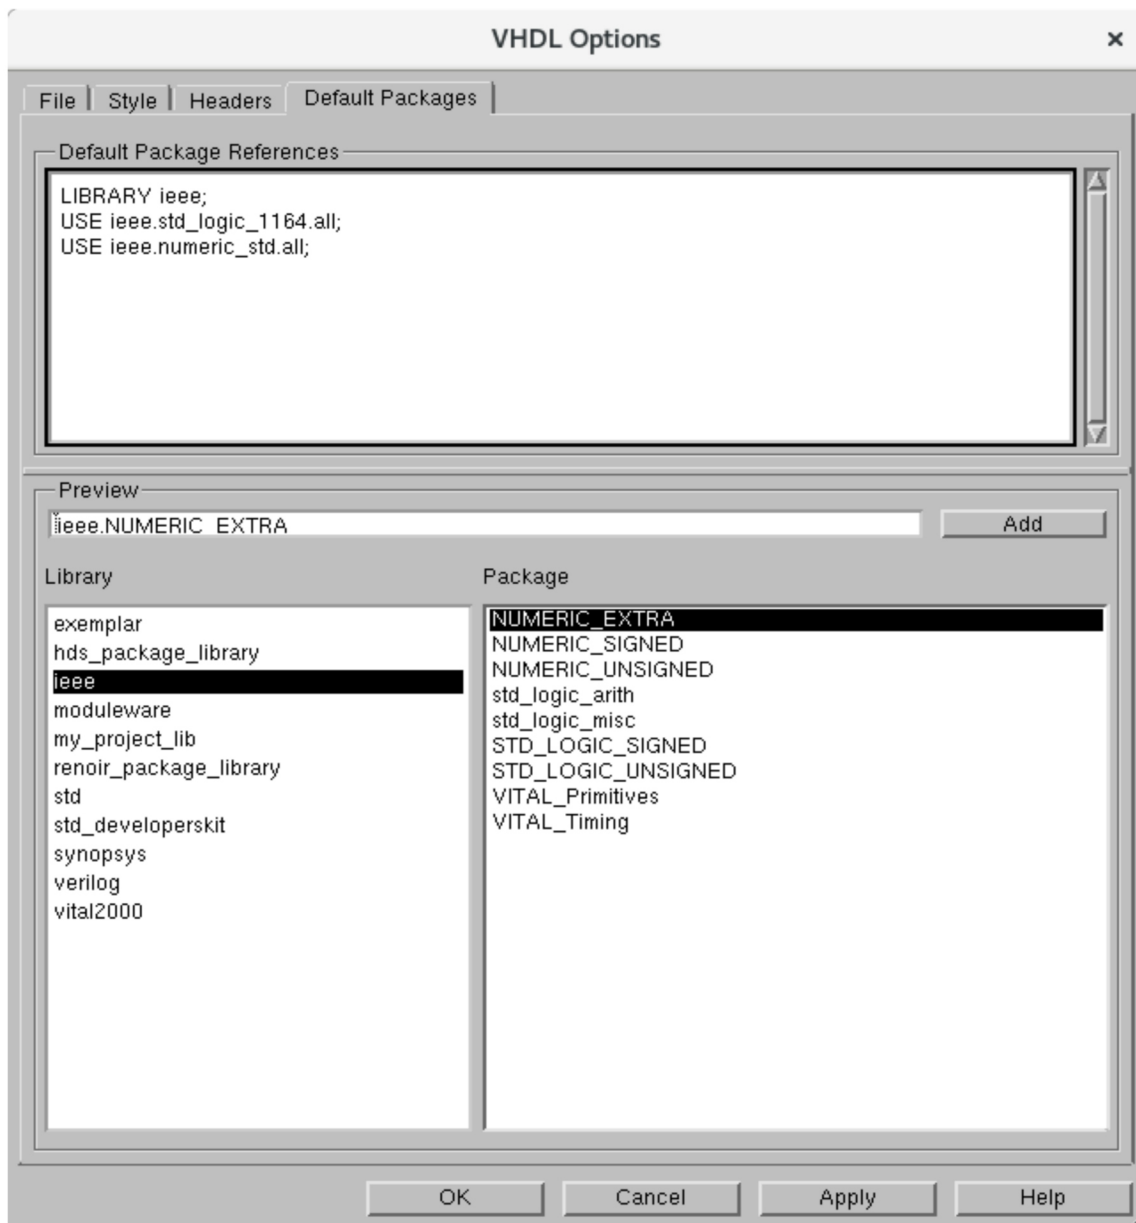

Figure 11: Modified default packages definitions
9. Select Options->VHDL in the main windows. Select the Default Packages subwindows. Change the text by replacing the reference to ieee.std_logic_arith with a reference to ieee.numeric_std as shown in Figure 11.